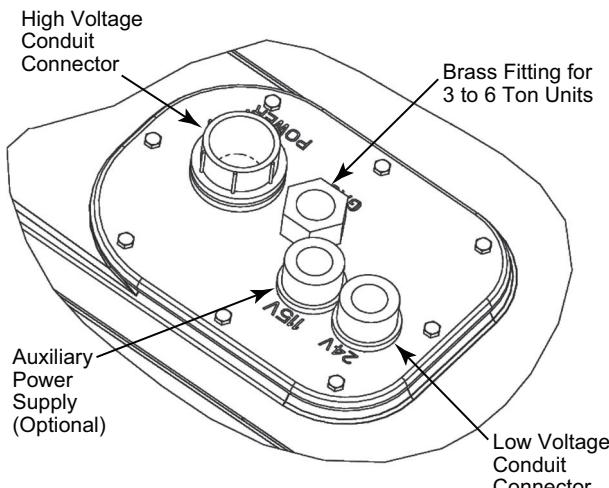

Fig. 18 – Thru-Base Connection Fittings
The 3/4 in. bulkhead connector enables the low-voltage control wires to pass through the basepan. The 1/2 in. bulkhead connector allows the high-voltage power wires to pass through the basepan. See Fig. 18.
3. Place the gasket over the embossed area in the basepan, aligning the holes in the gasket to the holes in the basepan. See Fig. 18.